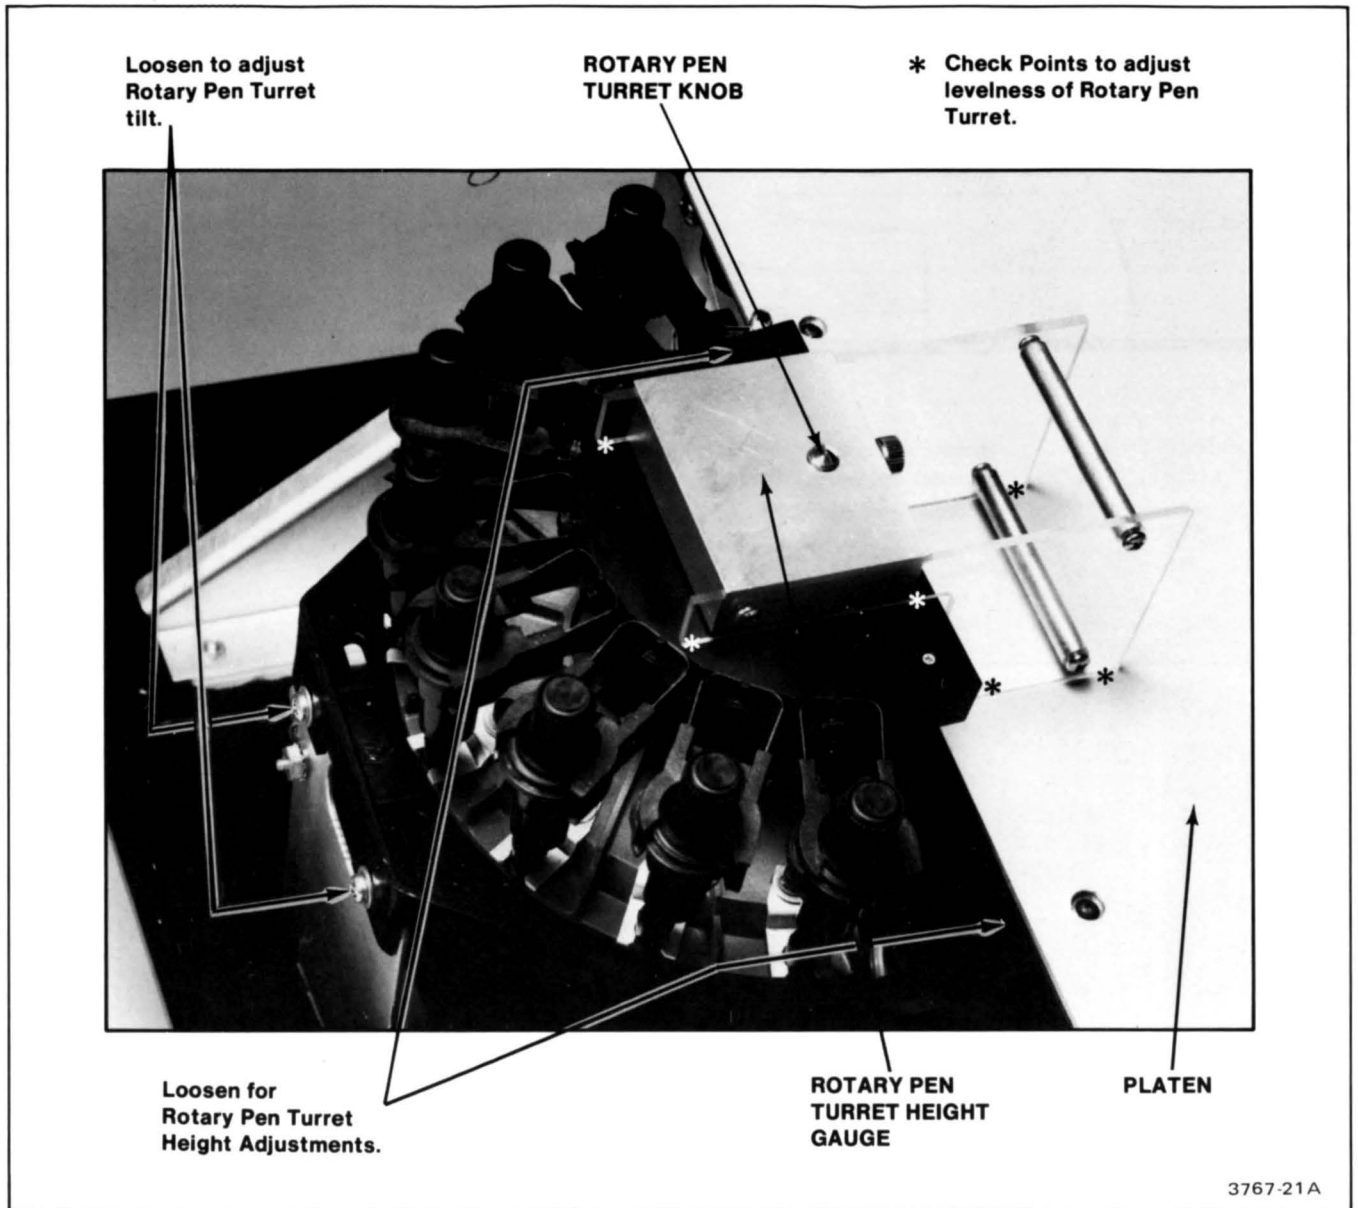

Figure 2-17. Rotary Pen Turret Height Adjustments.
6. **Loosen** the four screws holding the rotary pen turret to the plotter (see Figure 2-17).
7. **Attach** the rotary pen turret height gauge (003-1238-00) to the rotary pen turret shaft as shown in Figure 2-17. Make sure that the gauge sits level on the top of the rotary pen turret by squeezing the gauge and the pen turret together while tightening the gauge's set screw.
8. **Move** the rotary pen turret with the gauge attached until both sides of the bottom of the gauge rest on the platen (as shown in Figure 2-17). Then, tighten the four screws holding the rotary pen turret.
- If either of the conditions specified in the preceding step is not met, loosen the two screws securing the turret assembly to its bracket (Figure 2-17), and adjust the turret assembly tilt until the conditions are met.